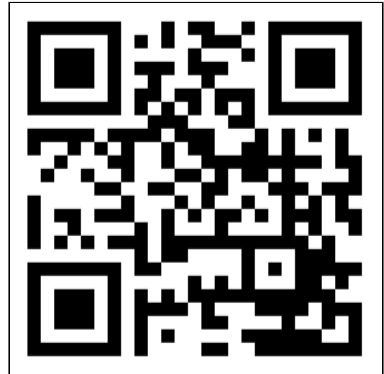

Figure 13.
1. Open the Eurom Smart App manual with the QR code (Figure 13) or go to www.eurom.nl/nl/manuals.